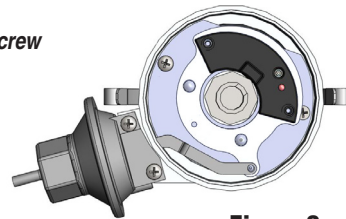

Figure 2
- For complete installation see figure 2.